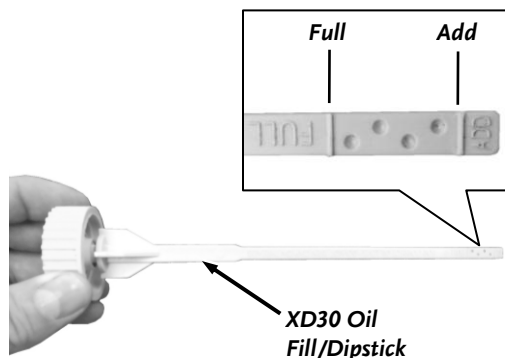
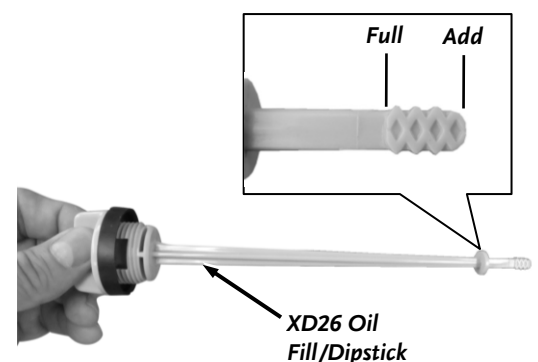

Figure 11b
Figure 11a
2. Wait one minute for the oil to settle and check the Dipstick (Figure 11a for XD26 Honda machines or Figure 11b for XD30 Kawasaki machines). Continue adding a few ounces of oil at a time, rechecking the Dipstick until the oil reaches the full mark. Be careful not to overfill.